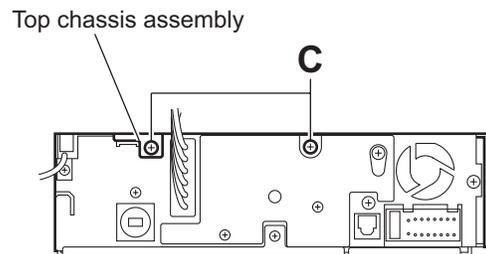

Fig.4
- From the back side of the main body, remove the two screws **C** attaching the top chassis assembly. (See Fig.4.)